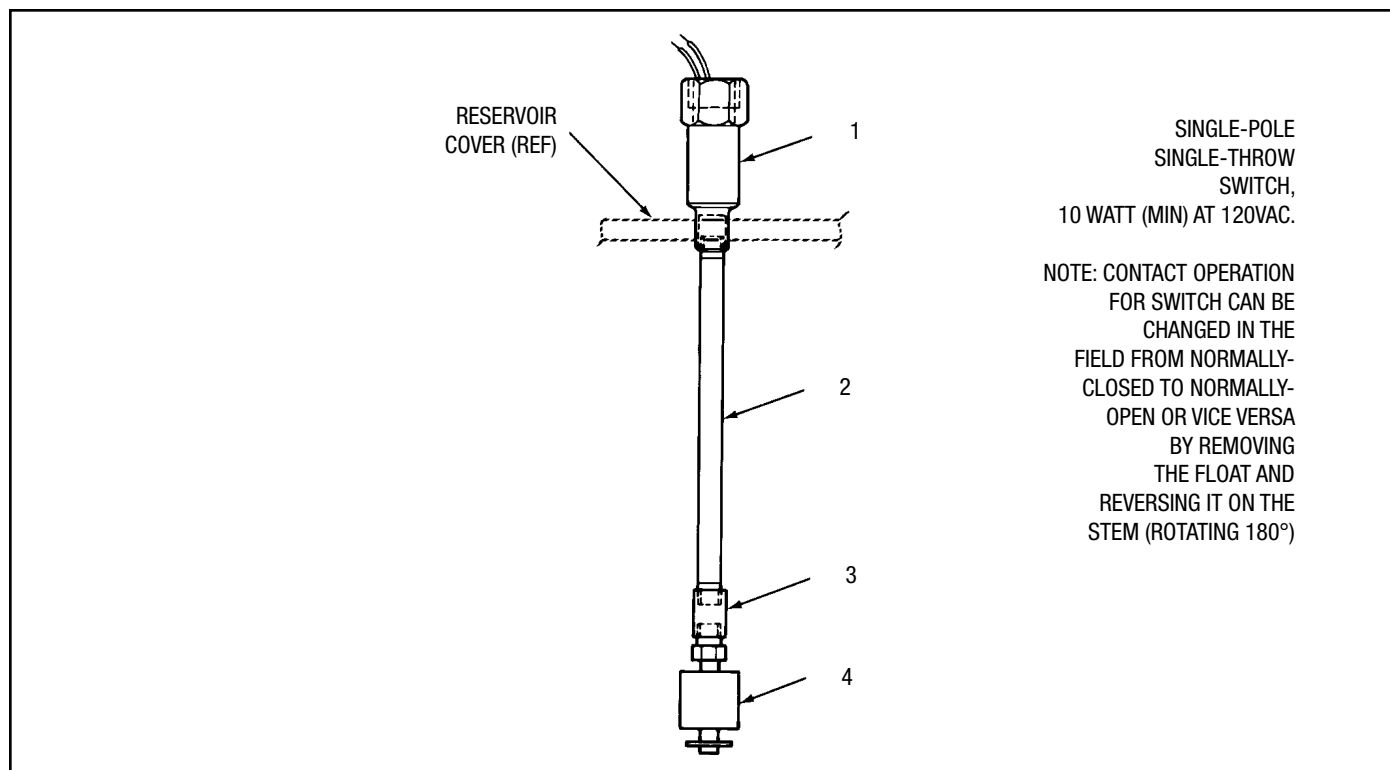

Figure 5-2. Oil Reservoir 10-Watt Low-Level Assembly
5.4.1 General. Maintenance tips, disassembly and assembly procedures for low-level options LOE and LOF are discussed in Paragraphs 5.4.2, 5.4.3 and 5.4.4. A sectional view of a low-level assembly is shown in Figure 5-2 and should be referred to during the discussion.
- b. Disconnect the two 22 AWG wires from the terminal box. Disconnect adapter (1, Figure 5-2) from the conduit.
- d. Unscrew nipple (2) from adapter (1). Be careful not to twist the wires too much.
- e. Unscrew nipple (2) from coupling (3).
- f. Unscrew coupling (3) from switch (4).
- g. Unscrew adapter (1) from the reservoir cover.
- b. Remove the 1/4 inch pipe plug from the cover. Screw adapter (1, Figure 5-2) in and tighten it securely.
- c. Guide the two 22 AWG wires from switch (4) through coupling (3). Screw coupling (3) onto switch (4) and tighten securely.
- d. Guide two 22 AWG wires through nipple (2). Screw nipple into coupling (3).
- e. Guide the two 22 AWG wires through adapter (1). Screw nipple into adapter (1). Be careful not to twist the wires too much. Tighten the connection.
- f. Connect switch (4) in accordance with local electrical codes.
5.4.5 Oil Reservoir 10-Watt Low-Level Assemblies Parts List. Table 5-3 identifies the parts indexed in Figure 5-2.